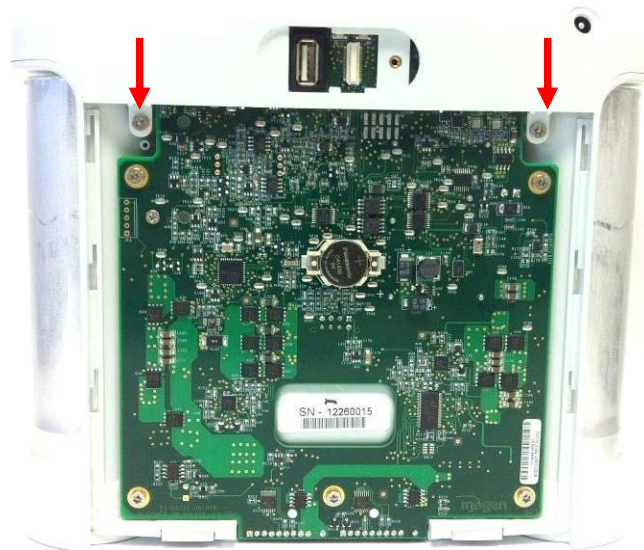

Figure 1: Location of rear screws
1. With the side housing removed, locate and remove the four screws that connect the user interface panel to the chassis (Figures 1 and 2).